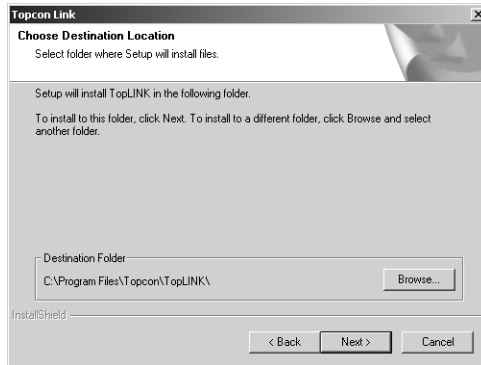

Figure 1-3. Choose Destination Location
- On the Choose Destination Location dialog box, click **Browse** to select the folder or type a new folder name in which to install the Topcon Link. Click **Next** (Figure 1-3).